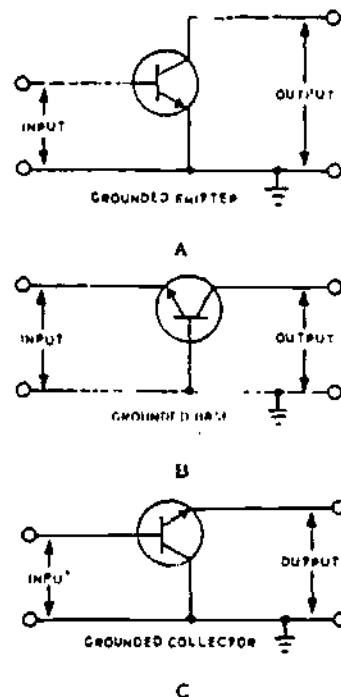

Figure 2-15. Transistor Configurations
2-51. A transistor may be connected in any one of three basic amplifier configurations. Each type has particular characteristics which make it suitable for specific applications. These circuits are the (1) common-emitter (CE), (2) the common-base (CB), and (3) the common collector (CC) configuration. They are also sometimes called the (1) grounded-emitter, (2) grounded-base, and (3) grounded-collector configurations. The COMMON or GROUNDED element of the transistor is that element which is common to both the input and output signal path. Figure 2-15 shows the three basic configurations using an NPN transistor.